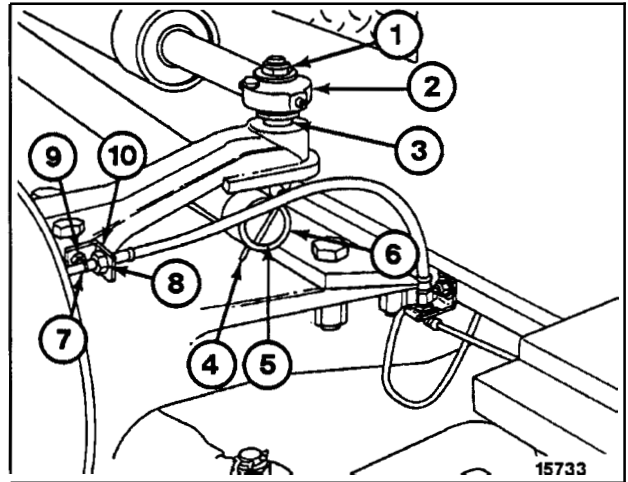

Figure 31
1. Remove self-locking nut and retaining washer (1, Figure 31), and steering cylinder rod end (2) from pin (3). Secure steering cylinder to side of frame to prevent interference with axle removal. Repeat this procedure for steering cylinder on other side of unit.
2. Remove cotter pin (4), adjusting plug (5), spring and bearing half from drag link (6). Remove drag link from ball stud.